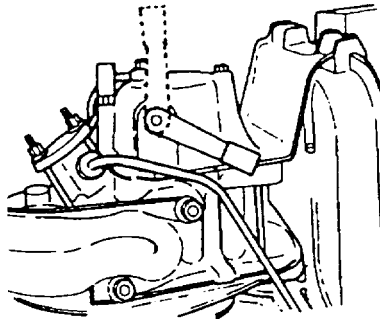

Figure 6-82 Starting (3)-2
- (3) Pull out the recoil starter handle.
- b) Turn the decompression lever to "Non compression" by one hand. The decompression lever returns automatically when the recoil starter handle is pulled (see Figure 6-82).